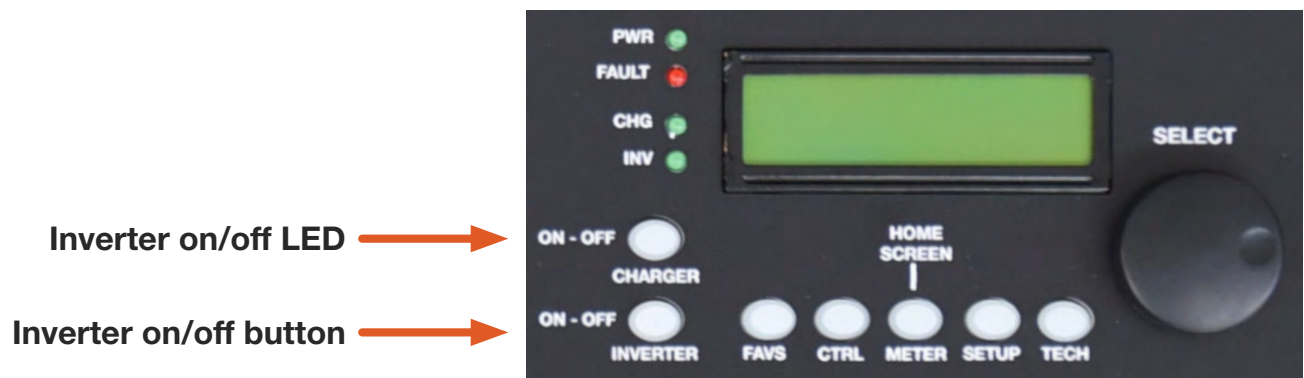

Figure 23. PRO-Verter LCD control panel
- a. Press the CTRL button (Figure 23). Rotate the SELECT knob to “03 Gen Control”. Press SELECT.